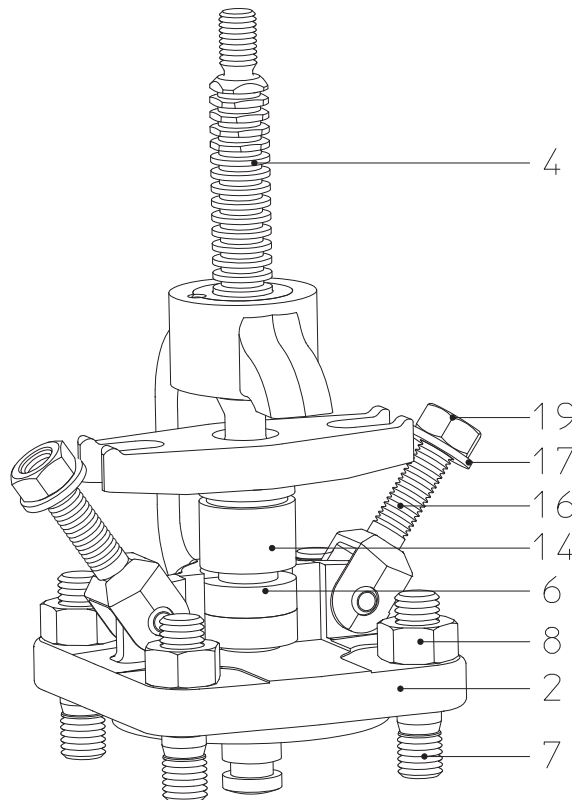

fig. 6: Pattern with hinged bolts
If necessary, renew packing in stuffing box seal (pos. 6). Observe warnings (fig. 6)!